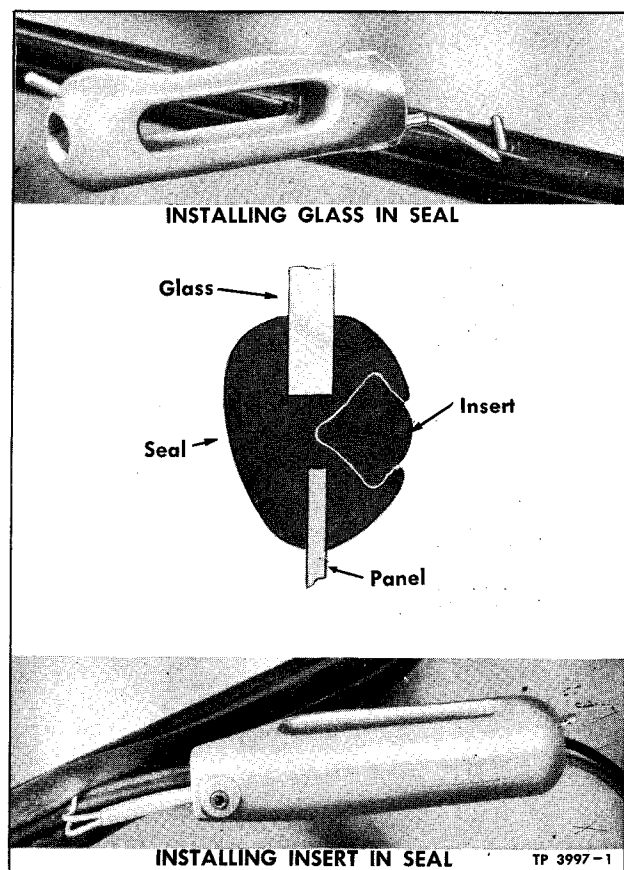

Figure 5—Installing Rubber Insert-Retained Glass
Although possible to install retainer and seal insert without use of special tools, those listed in SPECIAL TOOLS section, at end of manual, are recommended to facilitate installation (fig. 5).
tainer seal installer (fig. 5) in seal groove and move tool along edge of glass forcing outer lip of seal over glass.
7. Thread end of rubber insert through handle and eye of seal installer (fig. 5). At point opposite joint in retainer seal, push tool eye and end of insert into seal groove. Feed into groove in retainer seal. Use a hitching motion to prevent elongation of insert.